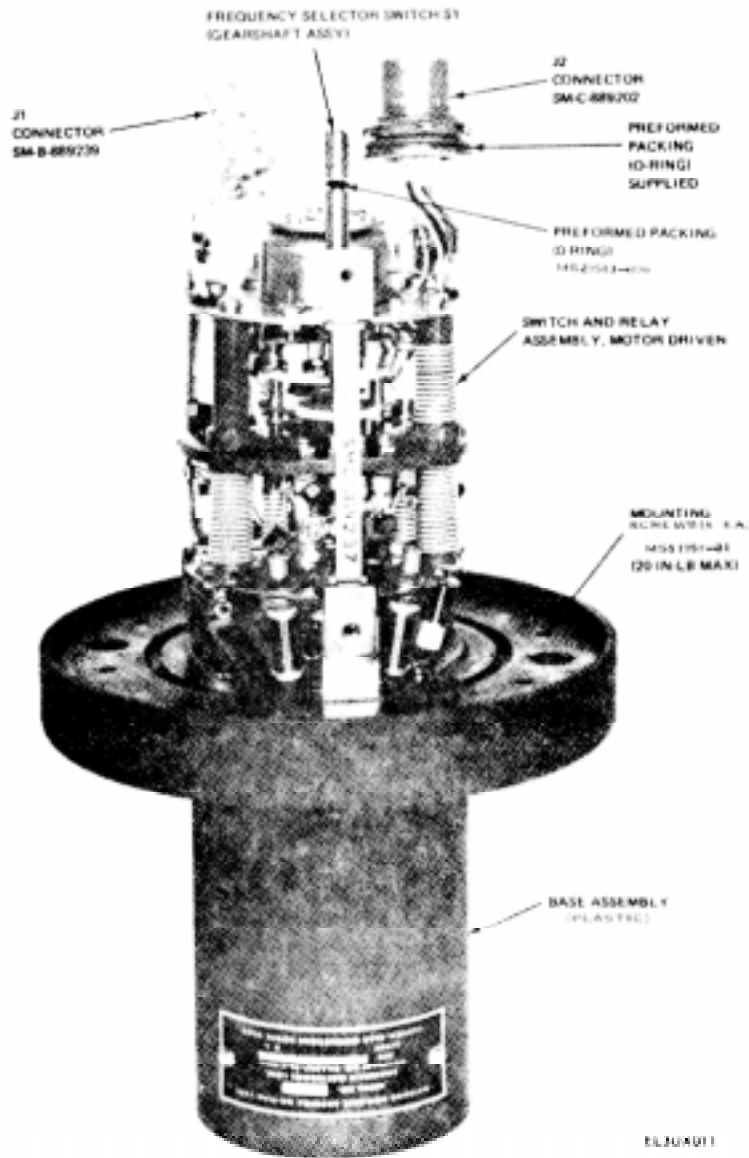

Figure 6-4. Matching Unit-Base, MX-9146/GRC, case cover removed, parts location
e. J2 Connector Assembly (fig. 6-4 and FO-1).
(1) Removal.